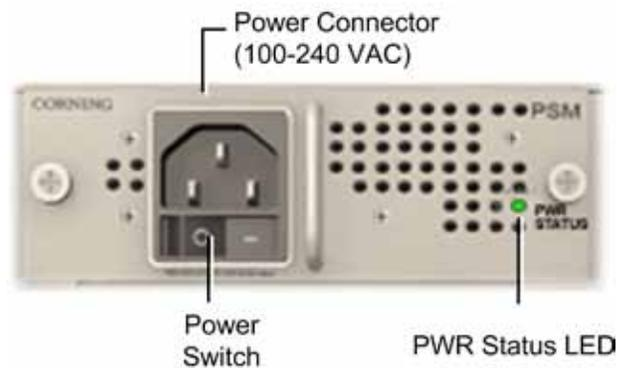
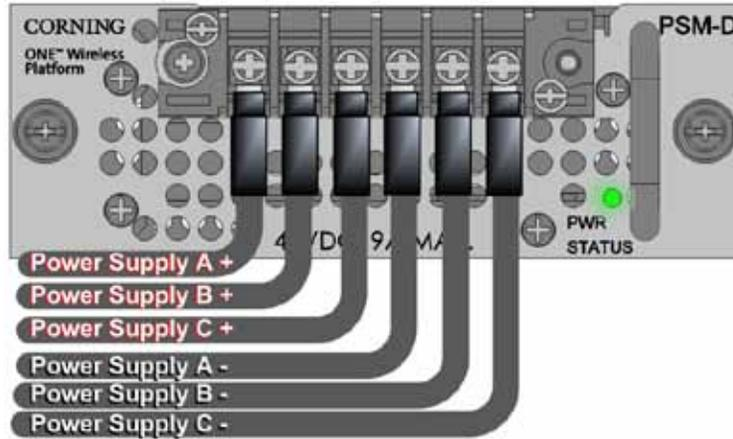

Figure 5-18. AC Power Supply Module LEDs
Figure 5-21. Connected DC Wire Pairs and Green Power LED
1. Connect power cable (100-240 VAC) supplied with module to the PSM-AC input connector and to the AC outlet and switch on. See Figure 5-18
2. Verify that the Power Status LED on each PSM shows green. See Figure 5-18 for PSM-AC LED.
- Verify that the Power Status LED on each PSM shows green. See Figure 5-18 (PSM-AC) and Figure 5-21 (PSM-DC).